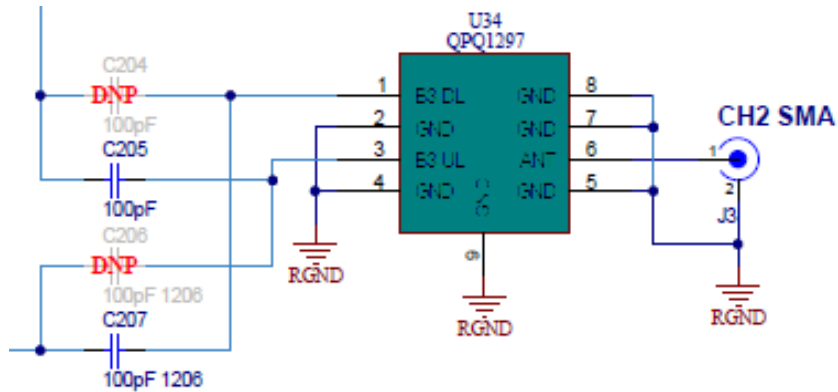

Figure 28 – Reverse RF Transmit Channel 2
- Enable CH2 duplexer to receive at 1747.5 MHz and transmit at 1842.5 MHz by moving two capacitors to swap connections to the pins of the QPQ1297 Band 3 BAW Duplexer at U34. See Figure 28 and **Error! Reference source not found.**